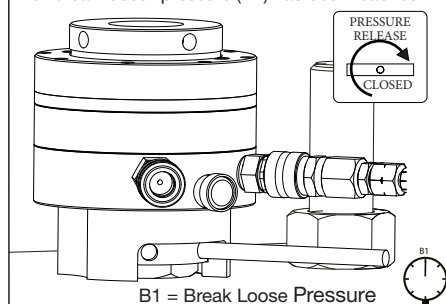

FIGURE 16, DETERMINING THE “BREAK LOOSE” PRESSURE
- If no leaks are found, continue operating the pump. Slowly raise the pressure until the "break loose" hydraulic pressure value is reached. This is the pressure at which a nut on one of the tensioners just begins to loosen and can be turned by hand with the tommy bar. Record this pressure for reference. See Figure 16.